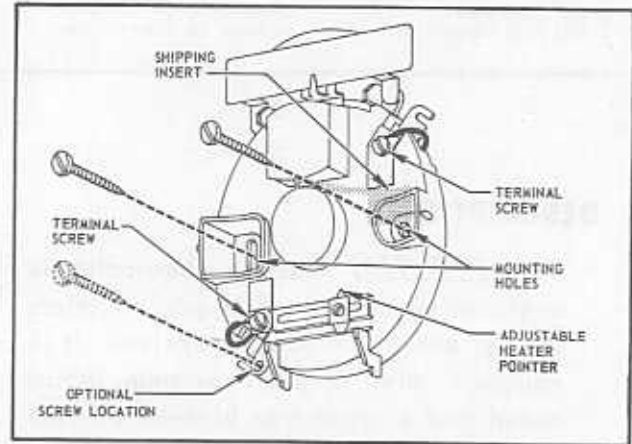

Fig. 2
- A. The cardboard insert that holds the bi-metal element rigid during shipping should be carefully removed. (See Fig. 2)
- B. For units equipped with adjustable heat anticipator, set pointer to value corresponding to rated current of primary heating control. If a longer "ON" cycle is required, move pointer to the right. For a shorter cycle, move to the left. (See Fig. 2)
- C. Fasten thermostat directly to wall, using the two wood screws supplied. (See mounting holes in Fig. 2)
- D. Connect lead wires to terminal screws as shown in Figure 2.